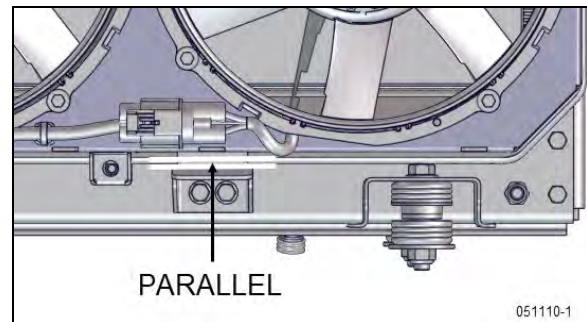

FIGURE 42: FAN SHROUD PARALLEL TO SUPPORT
- The bottom of the shroud should fit flat (parallel) against the shroud lower support (Figure 42).